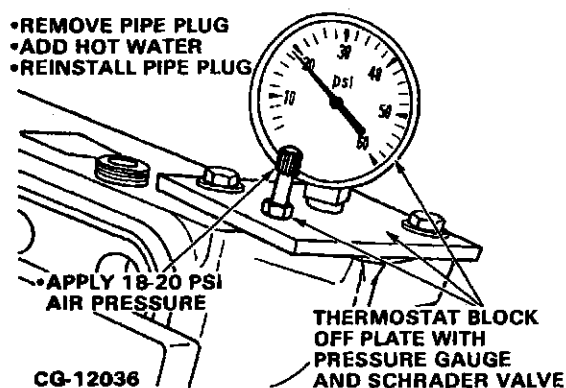

Figure 4.19. Install Thermostat Opening Block-Off Plate
- g. Apply a regulated air supply of 18–20 psi to the schrader (tire) valve located in the thermostat block-off plate. Refer to Figure 4.19.